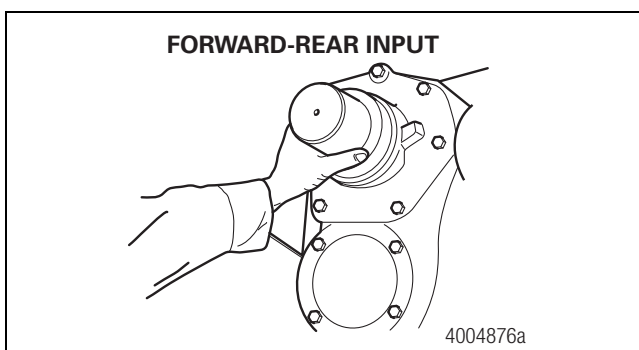

Figure 5.103
6. Install the forward-rear axle input seal. Hold the sleeve and seal only on the outer diameter. Position the seal into the seal driver and align it with the forward-rear axle input bearing cage. Do not touch the lips in the inner diameter of the seal. Use a dead-blow hammer and the appropriate driver to install the seal into the bearing cage. Figure 5.103.